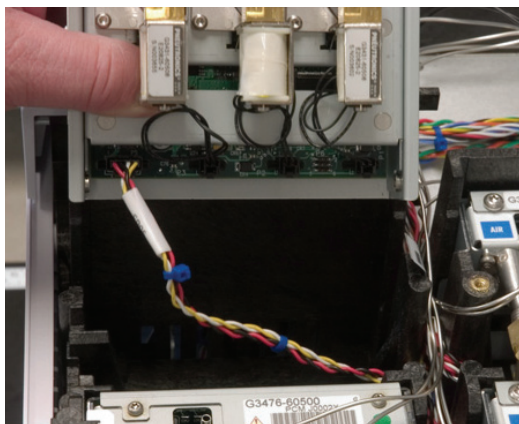

Figure 4.24. Installing the EPC module
- d. Slide the module into the vertical slot tracks. Arrange the cable to prevent it from being pinched by the EPC module (Figure 4.24).